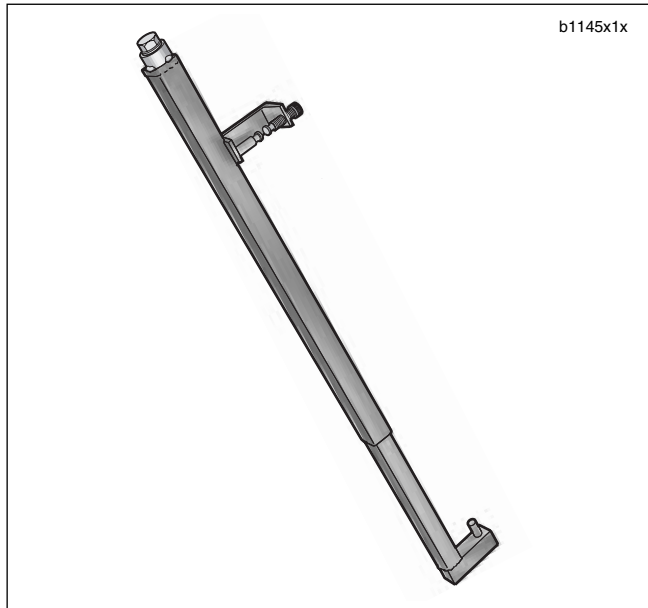

Figure 2-67. Fork Spring Compressing Tool (HD-45966)
6. See Figure 2-67. Move the fork assembly from the holding tool and compress fork in the FORK SPRING COMPRESSION TOOL.
8. Remove preload washer (4) and slider piston (5).
9. See Figure 2-67. Expand fork and remove from FORK SPRING COMPRESSION TOOL.